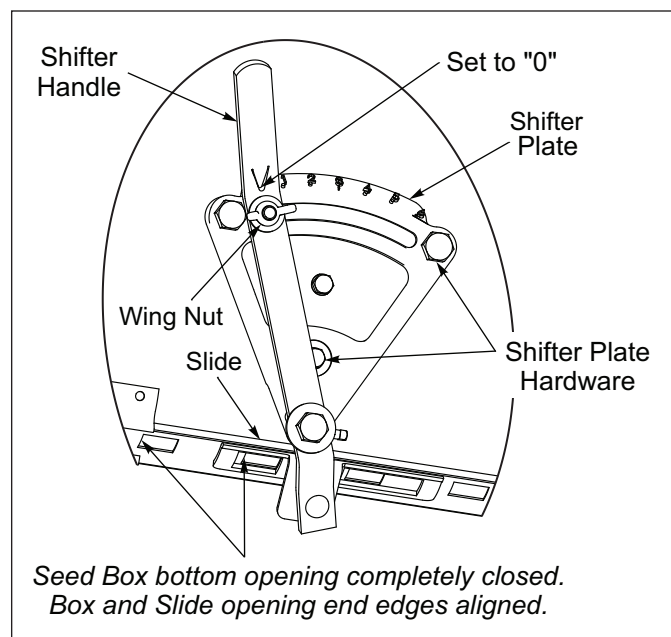

Figure 4-6: Agitator Box Completely Closed.
- Loosen the Shifter Handle Wing Nut and move the Shifter Handle until the Slide opening edge is aligned with the Seed Box bottom opening edge. The Seed Box opening should be completely closed. **See Figure 4-6.**
- Shift the Shifter Handle to “0”. The Seed Box bottom opening should be fully closed. **See Figure 4-6.**